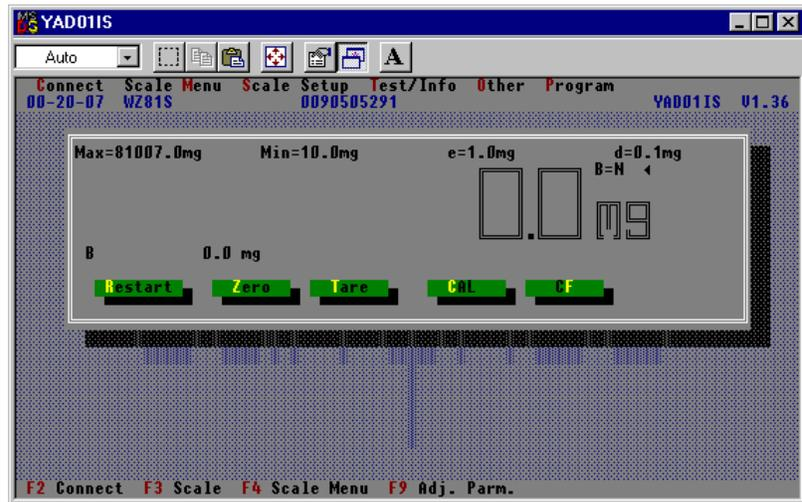

Figure 21
3. Using the keyboard, press **F2** to connect to the weight scale. See Figure 21.